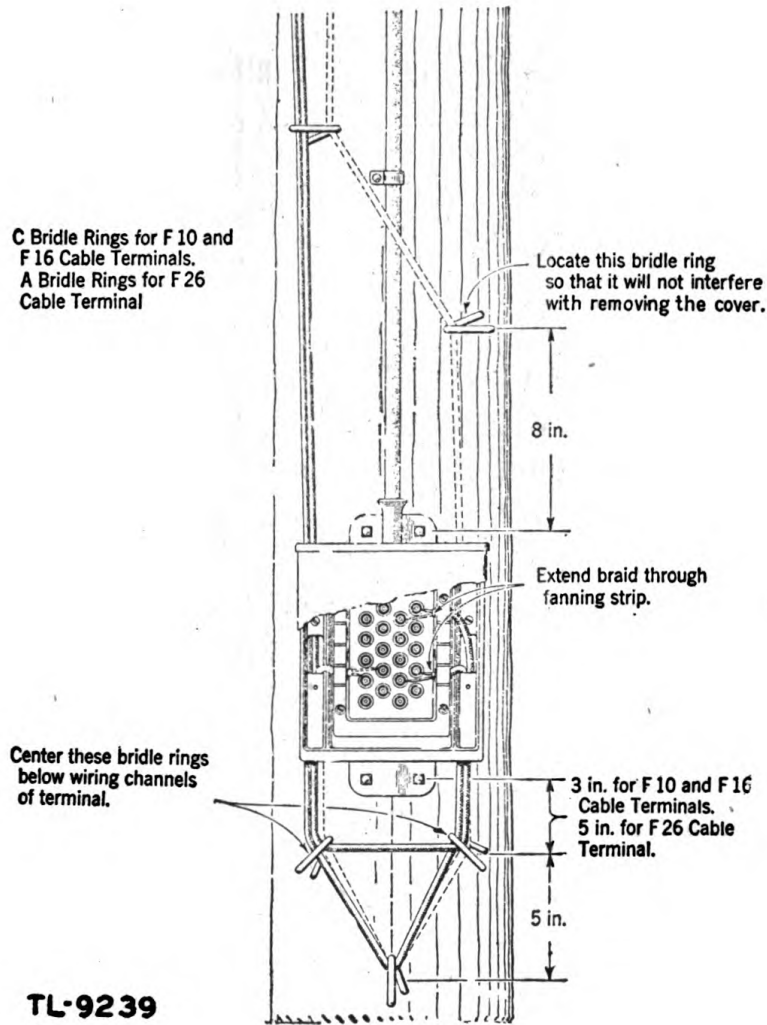

Figure 44. "F"-type cable terminal mounted on pole.
b. **WIRING AT "F"-TYPE CABLE TERMINALS.** (1) When entering "F"-type cable terminals from wire runs above the "F"-type cable terminal, always run wire through the three rings below the terminal, approaching the first ring from the side of the terminal farthest from the binding posts on which the wire is to be terminated. To obtain slack for transferring wire to another cable pair or reinstalling wire, if necessary skip the bottom rings. If sufficient slack cannot be secured in this manner, make a splice in the vertical run above the terminal, and route wire through the three rings.
(2) Figure 44 shows "F"-type cable terminal mounted on pole.